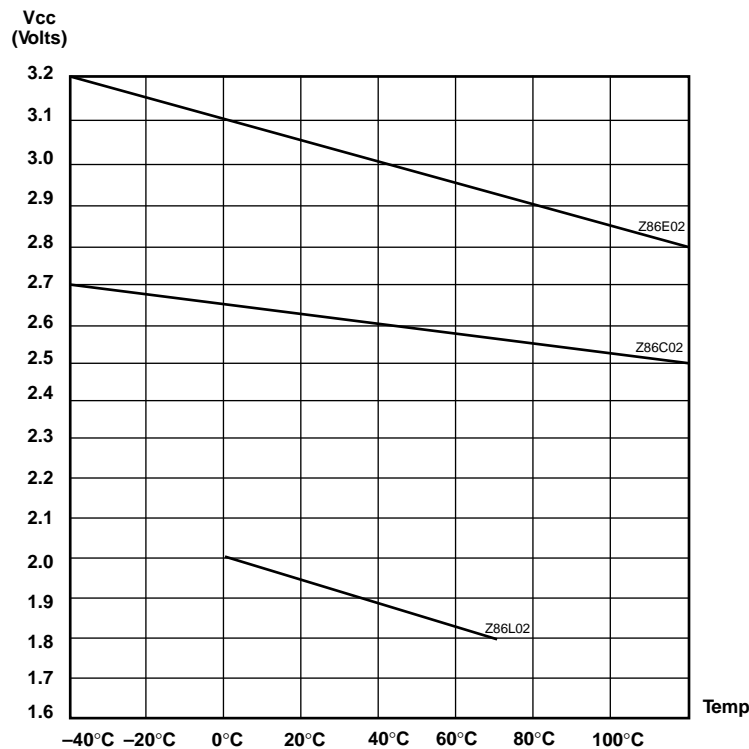

Figure 18. Typical Auto Reset Voltage (VLV) vs. Temperature
**Auto Reset Voltage ( $V_{LV}$ ).** The Z8 has an auto-reset built-in. The auto-reset circuit resets the Z8 when it detects the  $V_{CC}$  below  $V_{LV}$ . Figure 18 shows the Auto Reset Voltage versus temperature.